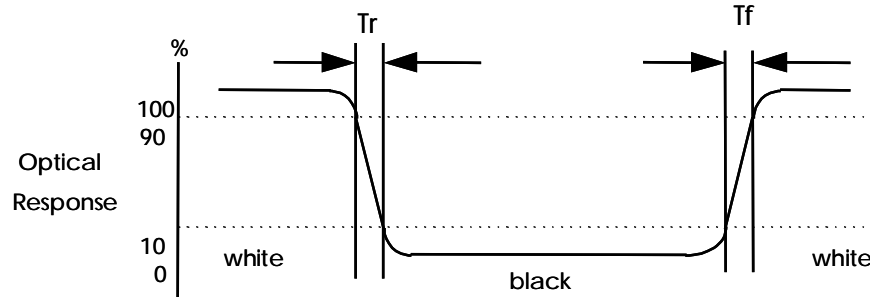

FIG.2. Measuring method for Contrast ratio, surface luminance, Luminance uniformity , CIE (x, y) chromaticity
Note 1. Contrast Ratio(CR) is defined mathematically as For more information see FIG 2.:
Note 2. Surface luminance is the LCD surface from the surface with all pixels displaying white. For more information see FIG 2.
Note 3. The uniformity in surface luminance, δ WHITE is determined by measuring luminance at each test position 1 through 5, and then dividing the maximum luminance of 5 points luminance by minimum luminance of 5 points luminance. For more information see FIG 2.